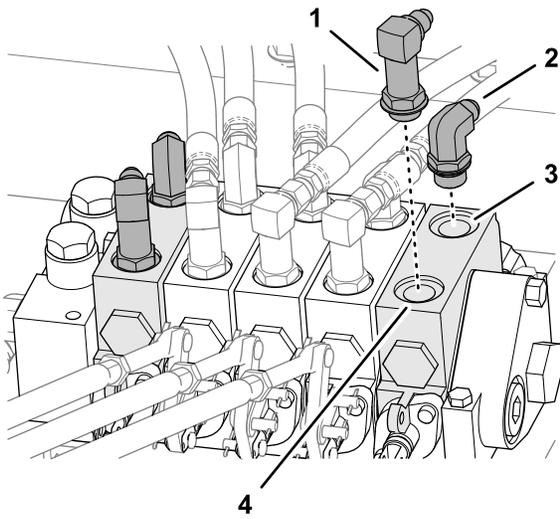

Figure 5
3. Assemble the short 90° fittings into the retract ports of the cutting-unit 6 and the cutting-unit 7 control valves (Figure 5).
4. Assemble the tall 90° fittings into the extend ports of the cutting-unit 6 and the cutting-unit 7 control valves (Figure 5).